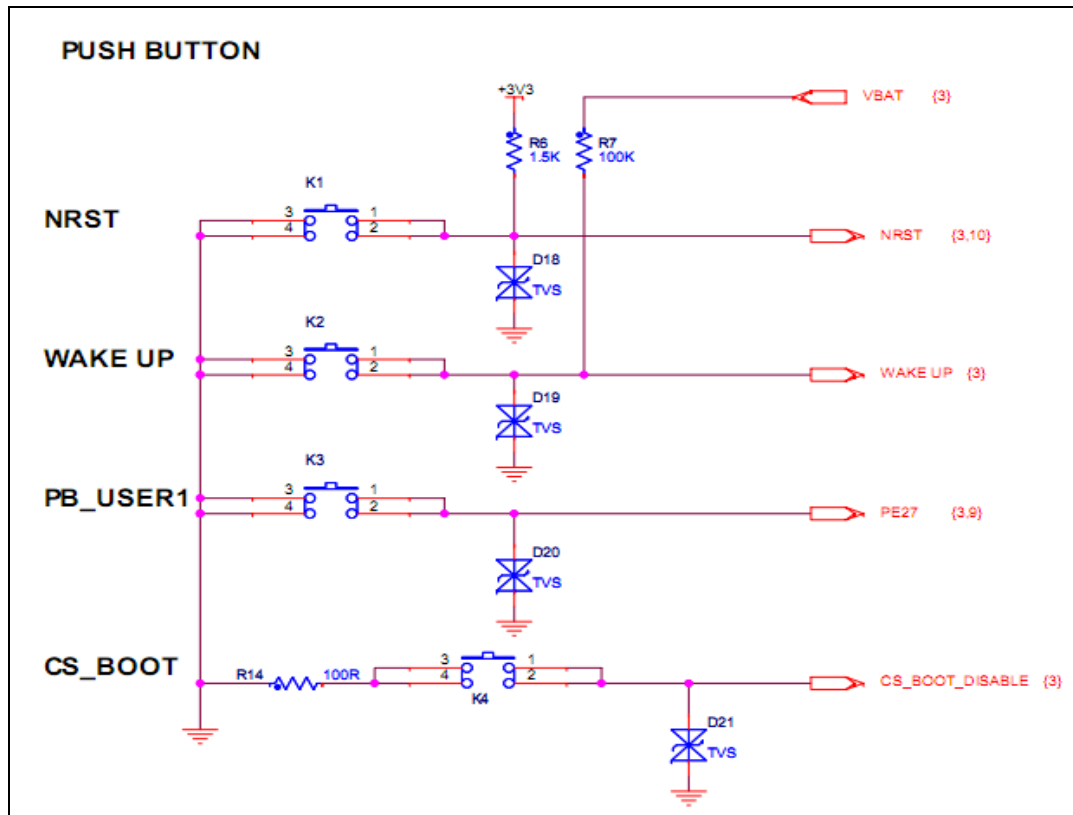

Figure 2-3
(2) Push button is shown in figure 2-3